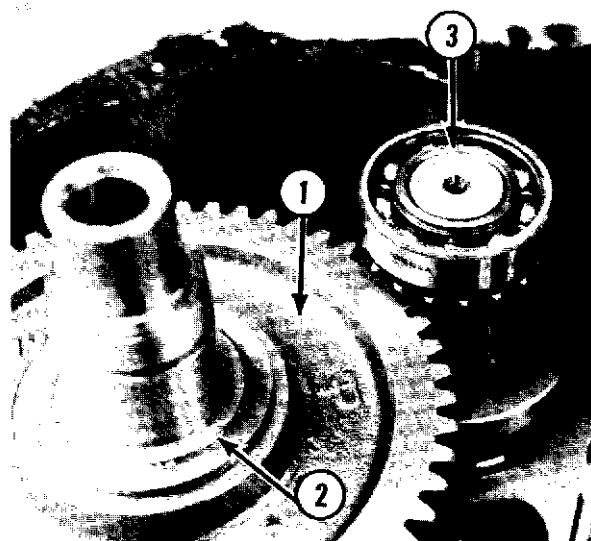

Fig. 11-27
- K. Install the key and the upper planetary gear (1, Fig. 11-27) with the top (marked) side up.
- L. Install the shim (2, Fig. 11-27) with the shoulder side up.
- M. Install the spacer and the upper ball bearing (3, Fig. 11-27) on the clutch shaft.